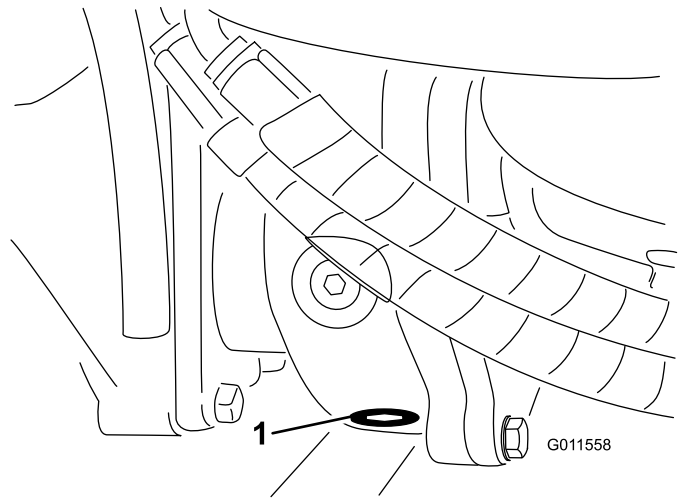

**Figure 86**
2. Clean the area around the 3 drain plugs; 1 on each end and 1 in the center (Figure 86).